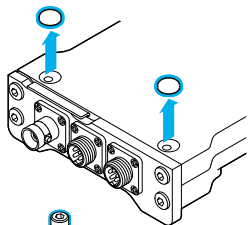

Fig. 3
1. Remove the rubber feet on the back of the transceiver that cover the through mounting holes (Fig. 3)